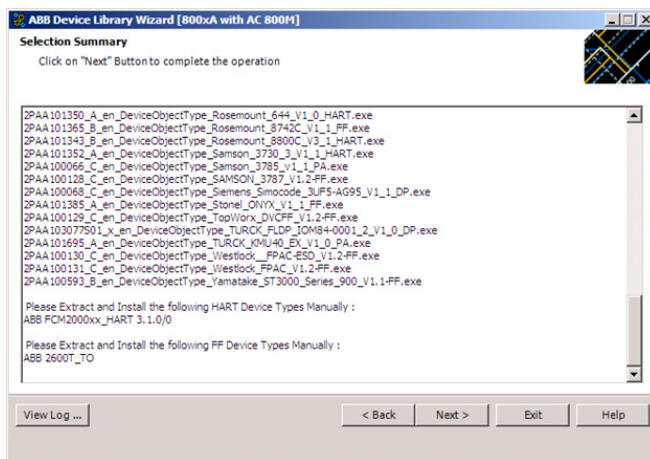

Figure 10. List of Files to be Manually Installed
- There may be some Object Types that are either customer created, or are the latest Device Types downloaded from ABB SolutionsBank. These will not be available on the DVDs. The Device Library Wizard will prepare a list for these Device Types (Figure 10). Install these Device Types manually.